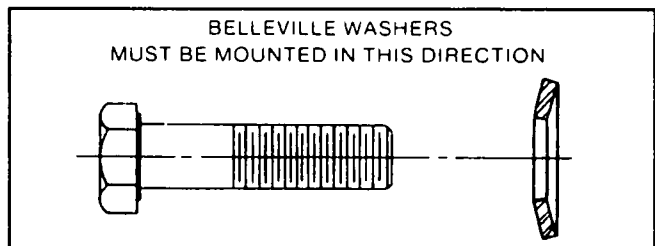

Figure 5. Fan Capscrew and Belleville Washer
- 4. To reinstall fan, slide fan onto shaft. Make sure the fan mounting surface is toward the drive hub. Align reference marks and mount the fan to the drive hub with capscrews and belleville washers (Figure 5). Tighten capscrews to 60 foot-pounds (81 N-m).